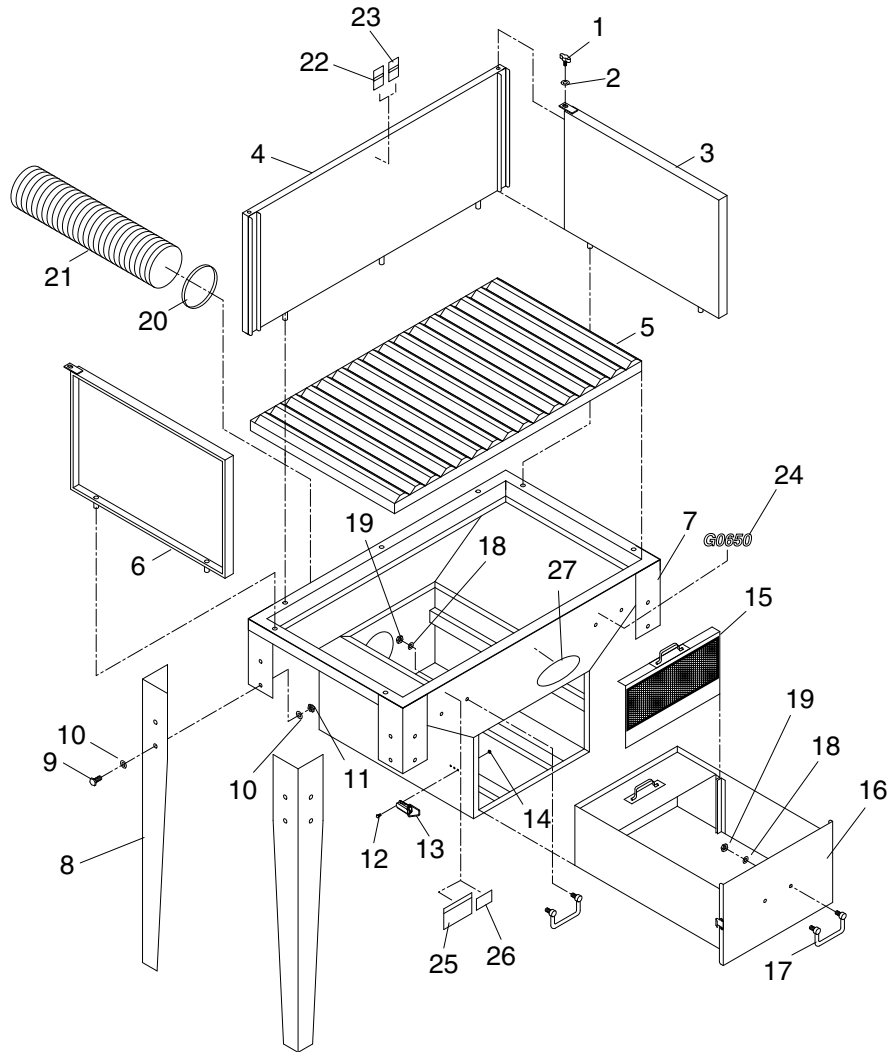

**Figure 17.** Cover and stainless screen.
2. Unlatch and remove the slag drawer and slide the screen up and out (**Figure 17**).